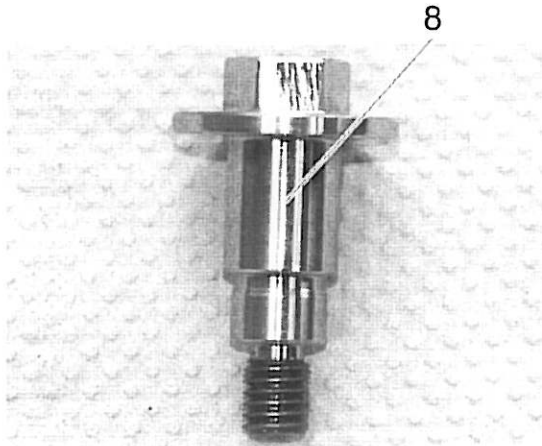

Figure 16
11. Apply Loctite 243 to both screws (item 8). See Figure 16.